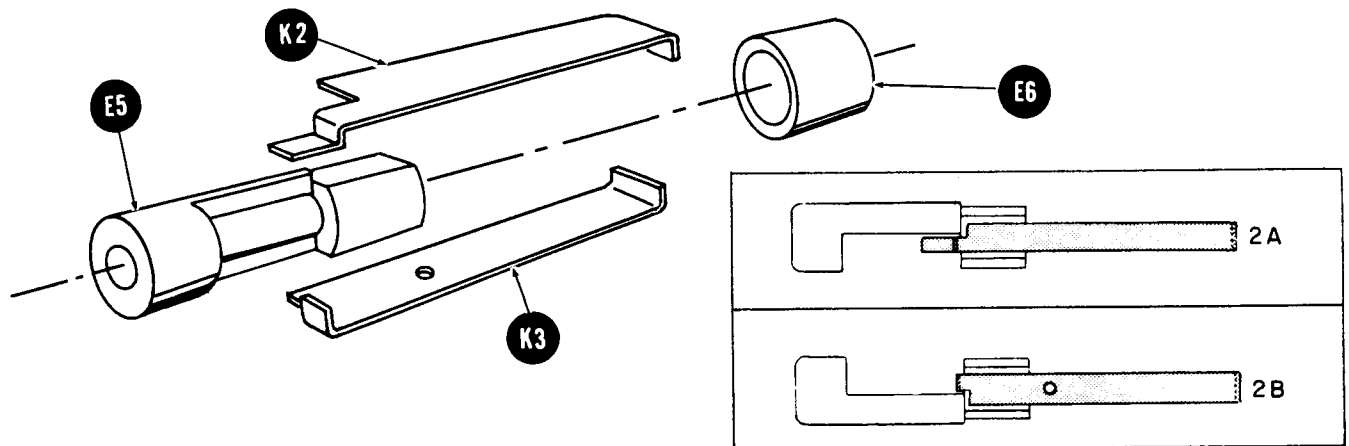

Figure 2
5. ( ) Figure 2. Study the figure before proceeding with the assembly. Phosphor-bronze contacts K2 and K3 are formed differently and may not be interchanged from the relative positions shown in the drawing. K2 and K3 can most easily be differentiated by observing the small hole to be found in K3 but not in K2. Assemble as follows: Hold the black fiber contact holder E5 as shown in the figure. Lay K2 against the flat surface X of E5, position it as shown in Figure 2A, and hold it there. Then lay K3 against the parallel flat surface of E5 underneath, position it as shown in Figure 2B, and hold K3 in place also. Next catch the free ends of K2 and K3 in the large diameter fiber tube E6, then move E6 down over K2 and K3 to pin them against the flat surfaces of E5. This is a fairly tight fit and some force is required. E6 should finally rest against the shoulder of E5 past which it can not be moved.